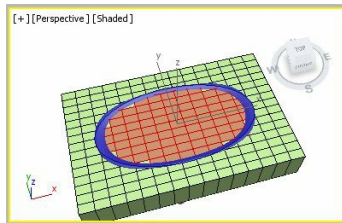
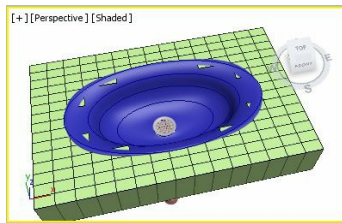

Figure 10-73 The inner polygons selected to be deleted
Figure 10-74 The washbasin slab after deleting the polygons
4. Now, select the inner polygons of *washbasin slab*, as shown in Figure 10-73. Next, delete them, refer to Figure 10-74.